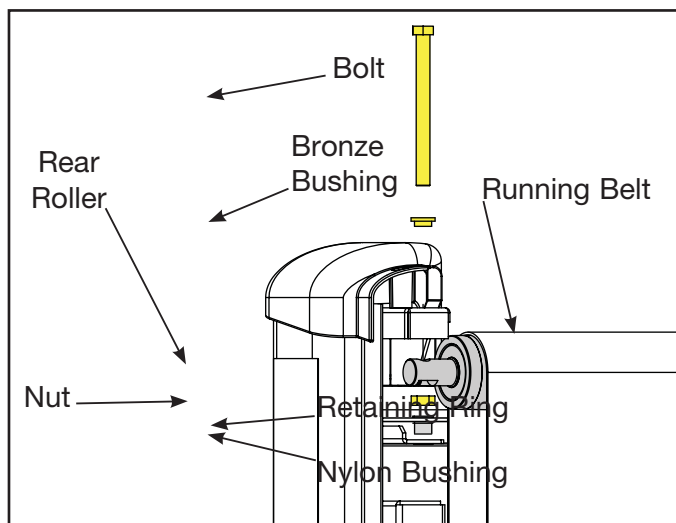

Figure 8
- A.** Using a 3/4" socket wrench, remove the two rear roller bolts, bronze bushing and nut (one roller bolt on each side). **NOTE:** Loosen each bolt evenly, making sure not to loosen either bolt too many turns before moving to the other bolt. See Figure 8.
- B.** Lift one side of the rear roller and slide the roller out of the running belt. **NOTE:** The nylon bushing and retaining ring will remain in the frame. See Figure 8.
- A. Slide the rear roller into the running belt. See Figure 8.
- C. Using a 3/4" socket wrench, tighten each rear roller bolt evenly, making sure not to tighten either bolt too many turns before moving to the other bolt. **NOTE:** Do not overtighten the belt. You will tension and center the belt in step 20. See Figure 8.